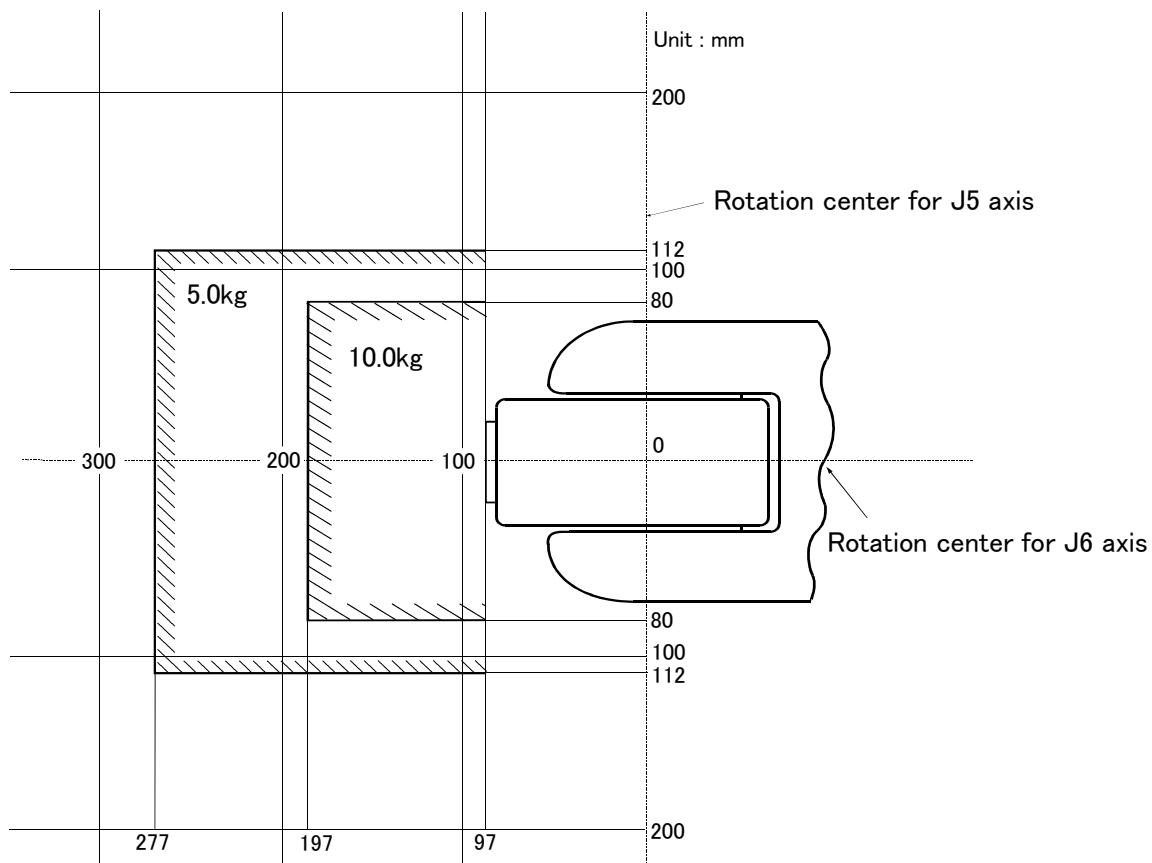

Fig.2-1 : Position of center of gravity for loads (for loads with comparatively small volume):RV-12S/12SL Series
- (1) The tooling should have the value less or equal than the smaller of the tolerable inertia and the tolerable moment found in Page 5, "Table 2-1 : Tab Standard specifications of robot"
- (2) Fig. 2-1 shows the distribution dimensions for the center of gravity in the case where the volume of the load is relatively small. Use this figure as a reference when designing the tooling.
- (3) When the load is not mass, but force, you should design the tooling so that it does not exceed the value for allowable moment described in Page 5, "Table 2-1 : Tab Standard specifications of robot"